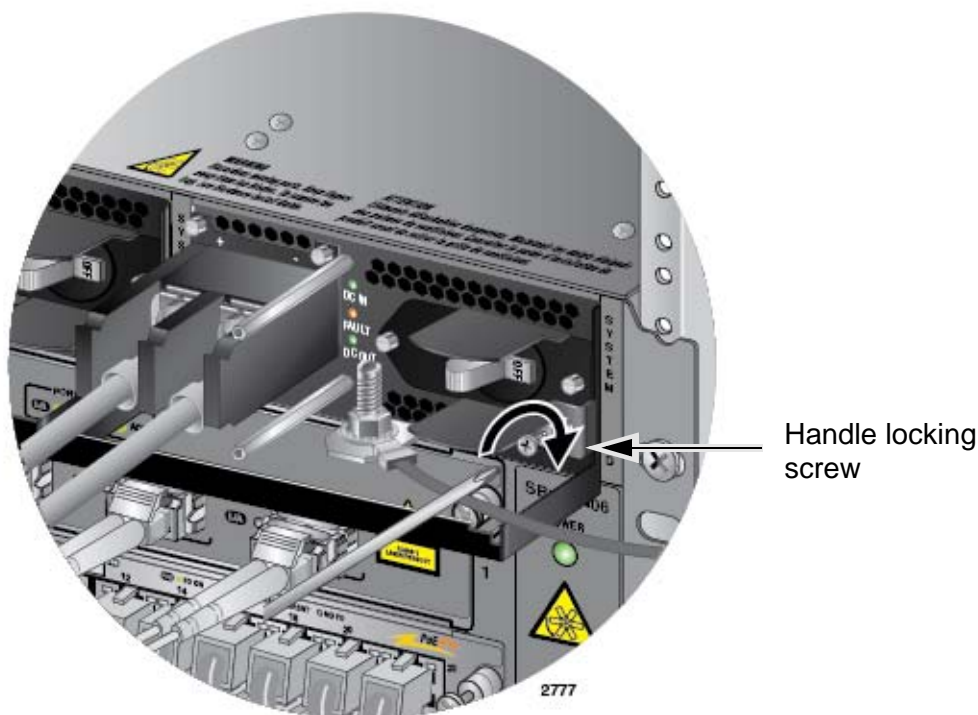

Figure 137. Tightening the Handle Locking Screw
8. With a #2 Phillips-head screwdriver, tighten the handle locking screw to secure the power supply to the chassis. See Figure 137 on page 194.